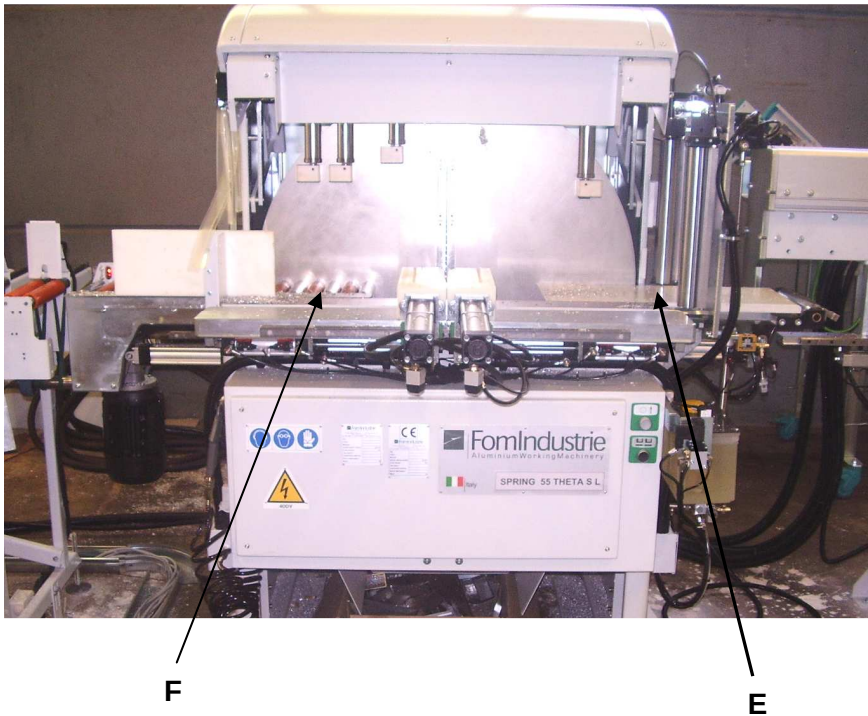

Fig. 06-04
6. The sawing machine is equipped with a translating work table on the Right '**E**' and a motor driven roller table (shuttle) '**F**' on the Left which sends the bar out and at the same time allows the waste pieces to drop inside the table (**Fig. 06-04**). The final bar waste is sent out automatically by the ejector inside the gripper (under the work table or on the unloading roller table, depending on the length).